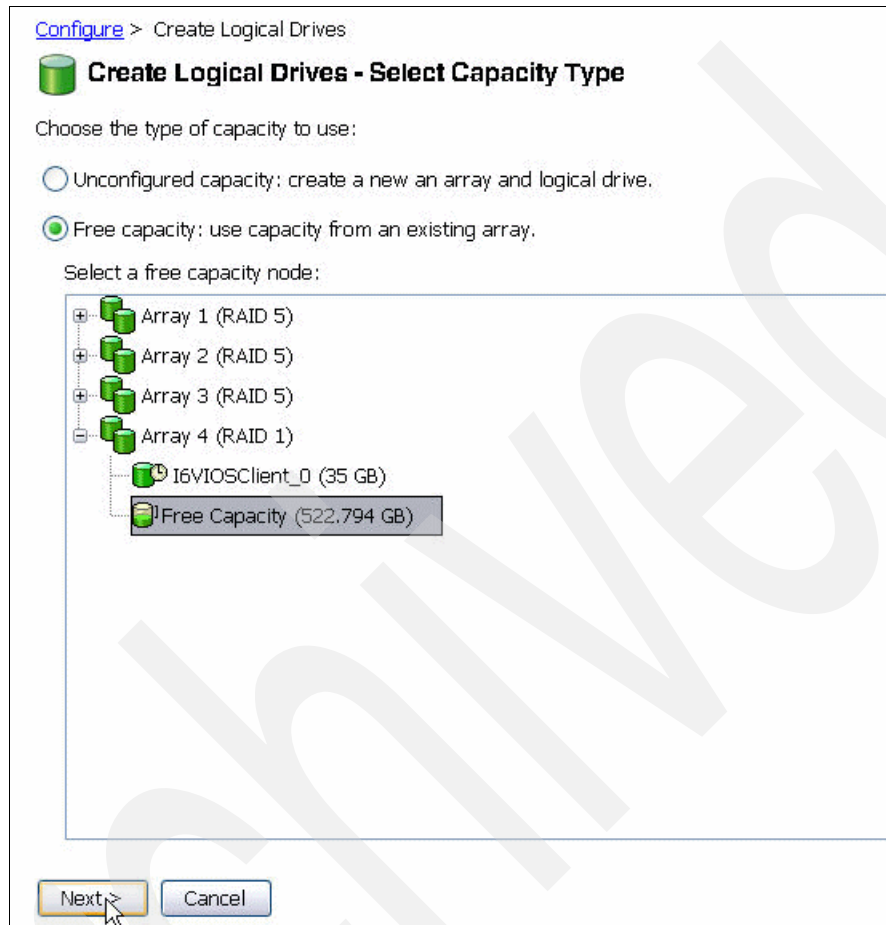

Figure 7-33 Create next logical drive
9. To create the next logical drive we select **Free Capacity** in the Create Logical Drives - Select Capacity Type window, then we expand the created array in RAID-1 and select **Free Capacity**, as shown on Figure 7-33. We continue the same way as described in step 6.